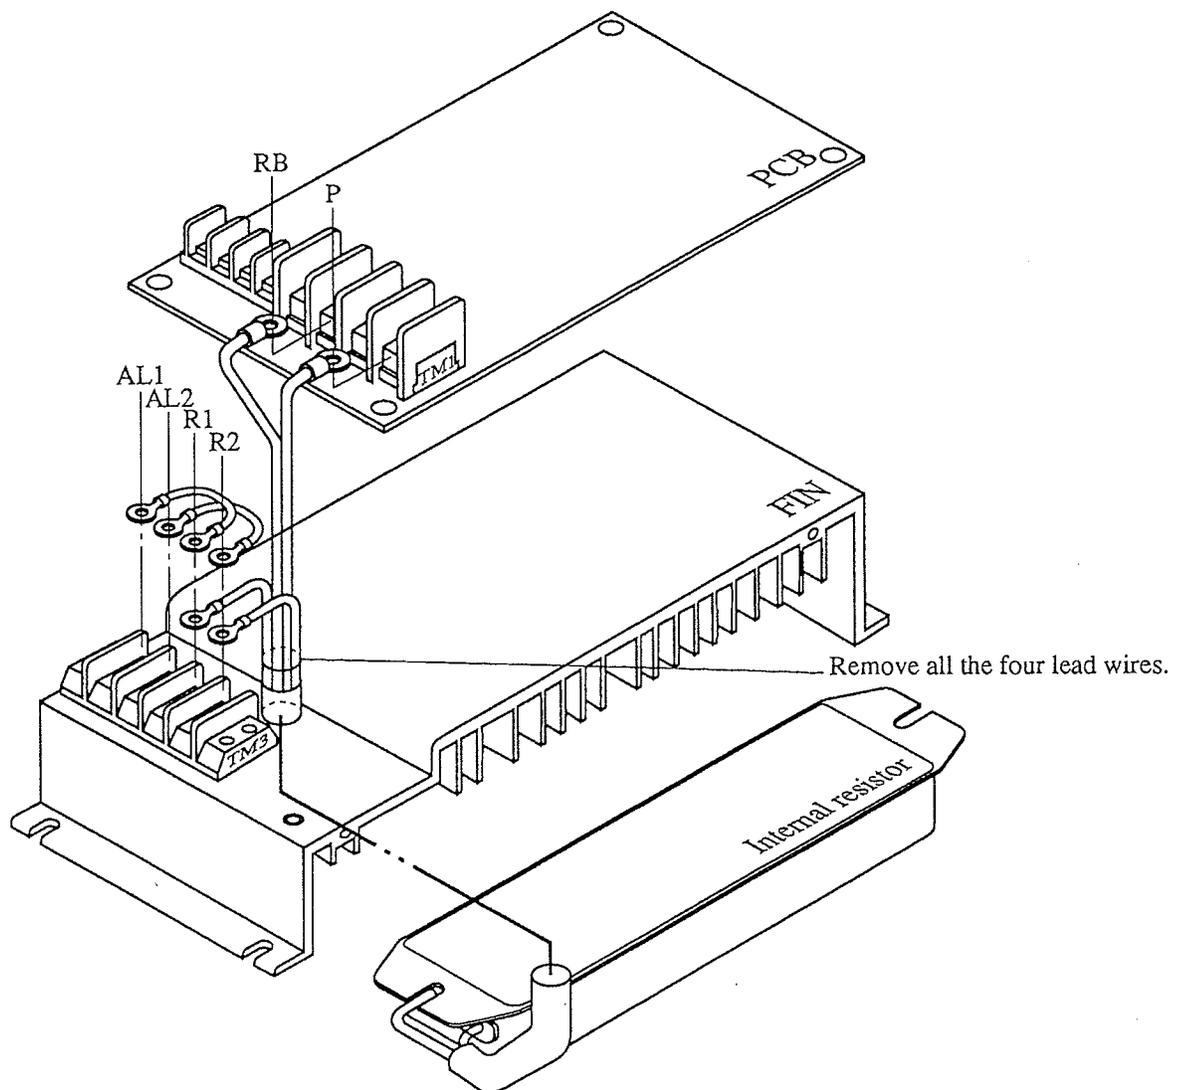

Fig. 2.1 How to Remove Internal Resistors
- (1) To prevent the discharge resistor from overheating and burning when an error occurs in the dynamic braking unit, be sure to install a circuit for switching off the power supply on the primary side of the inverter by connecting the alarm contacts (AL1, AL2). (See the connection diagrams in Sections 4.3, 4.4, and 4.5.)
- (2) The surface of each of the internal and external resistors tend to heat. Pay attention to a scald or effects of heat on other devices. (See Chapter 3, "Installation".)
- (3) When many resistors are combined, the voltage is greatly increased by the inductive component in each resistor at the time of switching. Therefore, countermeasures such as thick cables or twisted wires are necessary. Use non-inductive resistors as external resistors and do not combine more than 6 resistors.
- (4) Do not operate the regenerative braking unit in parallel with an old type of BRD (BRD-B, BRD-E or BRD-S). A fault may occur as the operating voltage and terminal configuration are different.
- (5) When using the operating voltage setting change function or the parallel connection interlocking running function, care should be taken in the DIP switch setting and wiring. Before starting setting and wiring, be sure to turn the power off. (For these functions, see Chapter 4, "Wiring and Function Setting".)
- (6) Check the wiring and connection and turn the inverter on.
(7) When the external resistor unit or individual external resistor is to be used, set the combined resistance to  $17 \Omega$  or more. Resistance  $17 \Omega$  or less may cause failure of braking unit. If the external resistor unit is connected when the internal resistors are kept connected, the internal resistors may be overheated and damaged. When the external resistors are to be used, be sure to remove the internal resistors. Remove the internal resistors as specified below with reference to Fig. 2.1
- ① Remove the lead wires connected to the P and RB terminals on the PCB and the R1 and R2 terminals on the radiation fins from the internal resistors.
- ② Remove the internal resistors from the back.
- ③ Return the cables between the terminals AL1-R1 and AL2-R2 on the radiation fins to their original position.
(See Fig. 2.1 shown in Chapter 2, "Special Precautions for Safety".)
Be sure to remove the built-in resistors from the back of the dynamic braking unit in the same way as the external resistor units are used and connect R1 and R2. (See Fig. 2.1 shown in Chapter 2, "Special Precautions for Safety".)